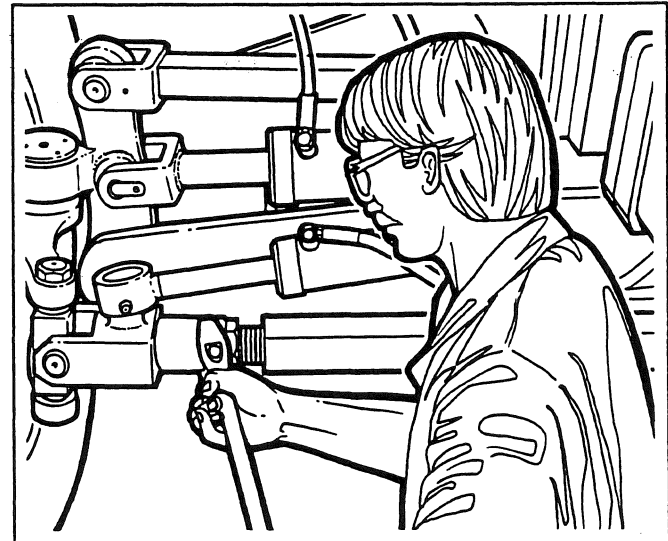

Fig. 19
- To adjust the toe-in, loosen the locknut (36) on the drag link (18). Use a wrench to turn the adjusting collar (37) (see Fig. 19). Turning the adjusting collar varies the length of the drag link and changes the toe-in measurement.